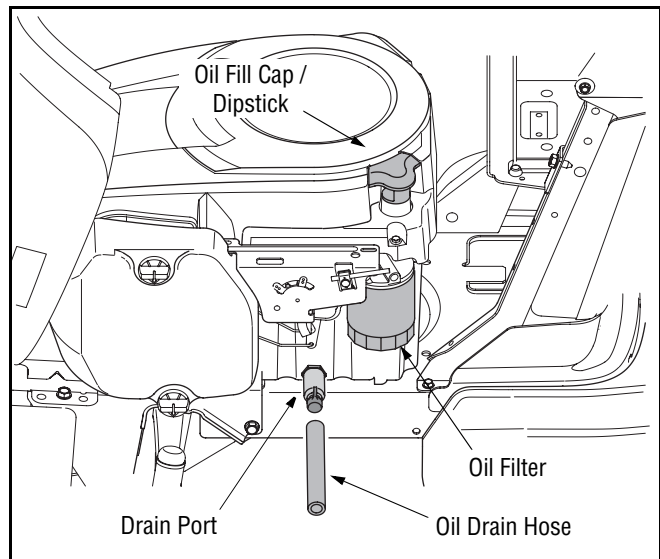

Figure 15
- Pop open the protective cap on the end of the oil drain valve to expose the drain port. See Figure 15
- **Slowly** pour oil into the fill tube. Fill the crankcase until the oil level reaches the full (F) mark on the dipstick (Refer to Figure 15).